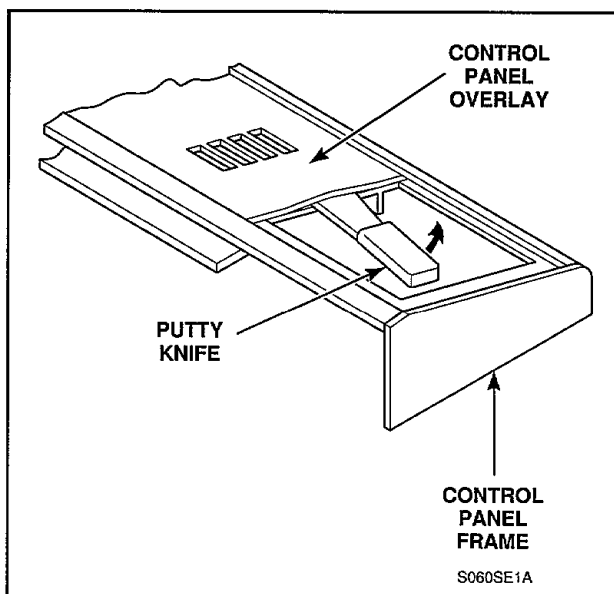

Figure 5
- b. Starting at the center of the panel opening, insert putty knife between overlay and panel frame, *Figure 5*. Lift up on putty knife and peel old control panel overlay off the control panel frame. Then remove the narrow piece of overlay from the right side of the panel.